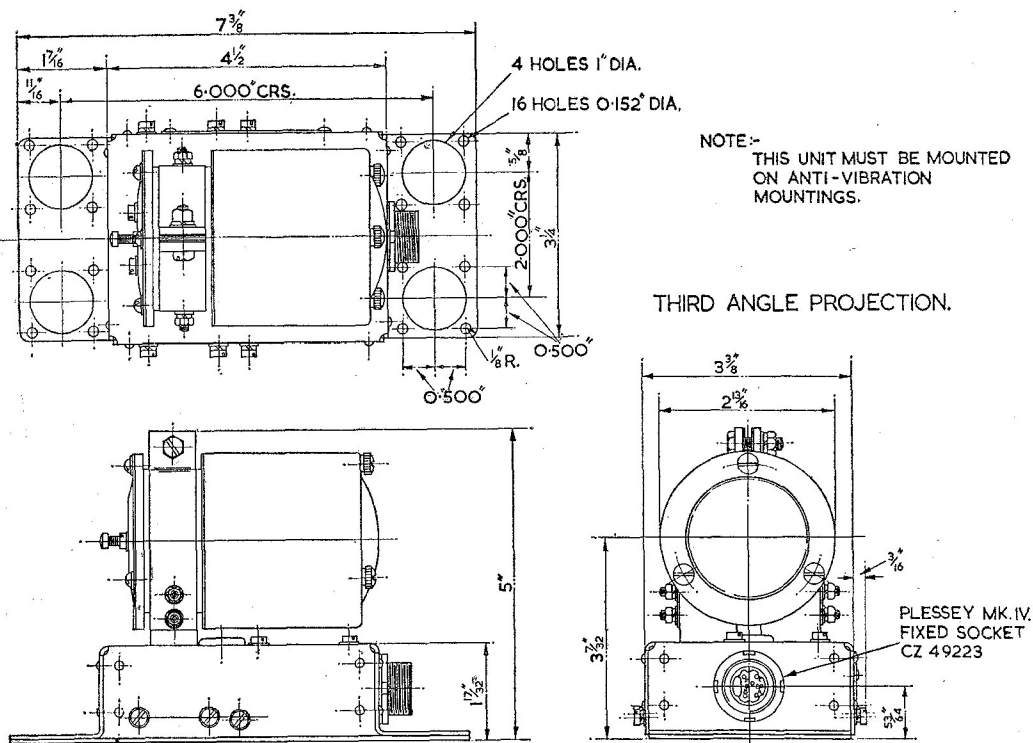

Fig. 2. Sectional views of frequency regulator
9. For duplication of supplies and maximum overall efficiency, a typical aircraft installation will generally require two of these frequency regulator units with their associated inverters. Overall dimensions of the frequency regulator are shown in installation drawing (fig. 2).